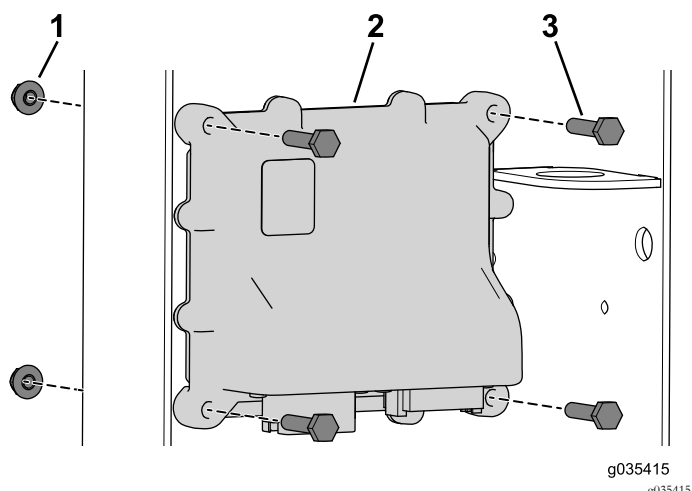

Figure 12
- Use the 4 bolts (1/4 x 3/4 inch) and flange nuts to secure the controller (Figure 12).